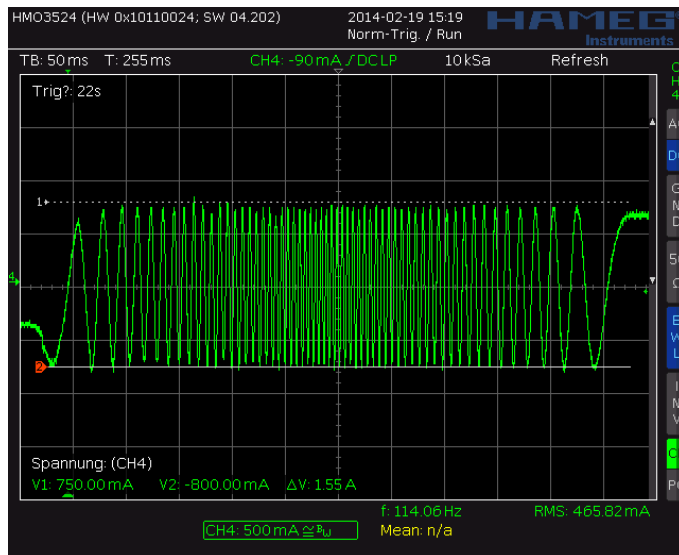
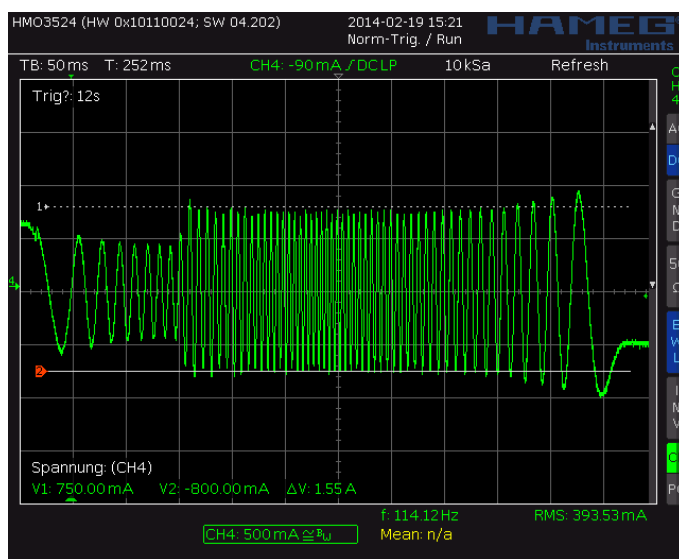
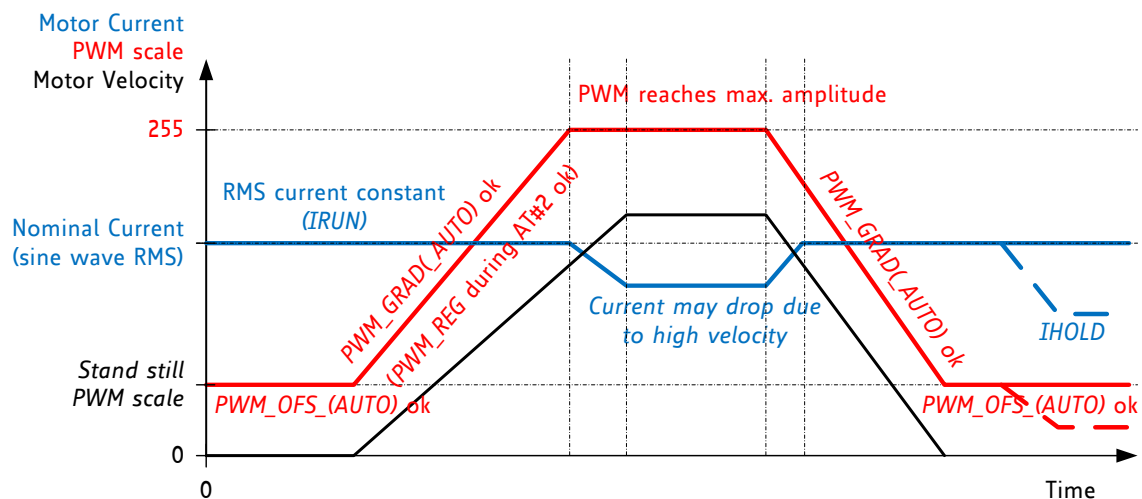

Figure 6.3 Scope shot: good setting for PWM\_REG
Figure 6.4 Scope shot: too small setting for PWM\_REG during AT#2
Figure 6.5 Successfully determined PWM\_GRAD(AUTO) and PWM\_OFS(AUTO)
In StealthChop voltage PWM mode, the autoscaling function ( $pwm\_autoscale = 1$ ,  $pwm\_autograd = 1$ ) regulates the motor current to the desired current setting. Automatic scaling is used as part of the automatic tuning process (AT), and for subsequent tracking of changes within the motor parameters. The driver measures the motor current during the chopper on time and uses a proportional regulator to regulate  $PWM\_SCALE\_AUTO$  in order match the motor current to the target current.  $PWM\_REG$  is the proportionality coefficient for this regulator. Basically, the proportionality coefficient should be as small as possible to get a stable and soft regulation behavior, but it must be large enough to allow the driver to quickly react to changes caused by variation of the motor target current (e.g., change of  $VREF$ ). During initial tuning step AT#2,  $PWM\_REG$  also compensates for the change of motor velocity. Therefore, a high acceleration during AT#2 will require a higher setting of  $PWM\_REG$ . With careful selection of homing velocity and acceleration, a minimum setting of the regulation gradient often is sufficient ( $PWM\_REG=1$ ).  $PWM\_REG$  setting should be optimized for the fastest required acceleration and deceleration ramp (compare Figure 6.3 and Figure 6.4). The quality of the setting  $PWM\_REG$  in phase AT#2 and the finished automatic tuning procedure (or non-automatic settings for  $PWM\_OFS$  and  $PWM\_GRAD$ ) can be examined when monitoring motor current during an acceleration phase Figure 6.5.